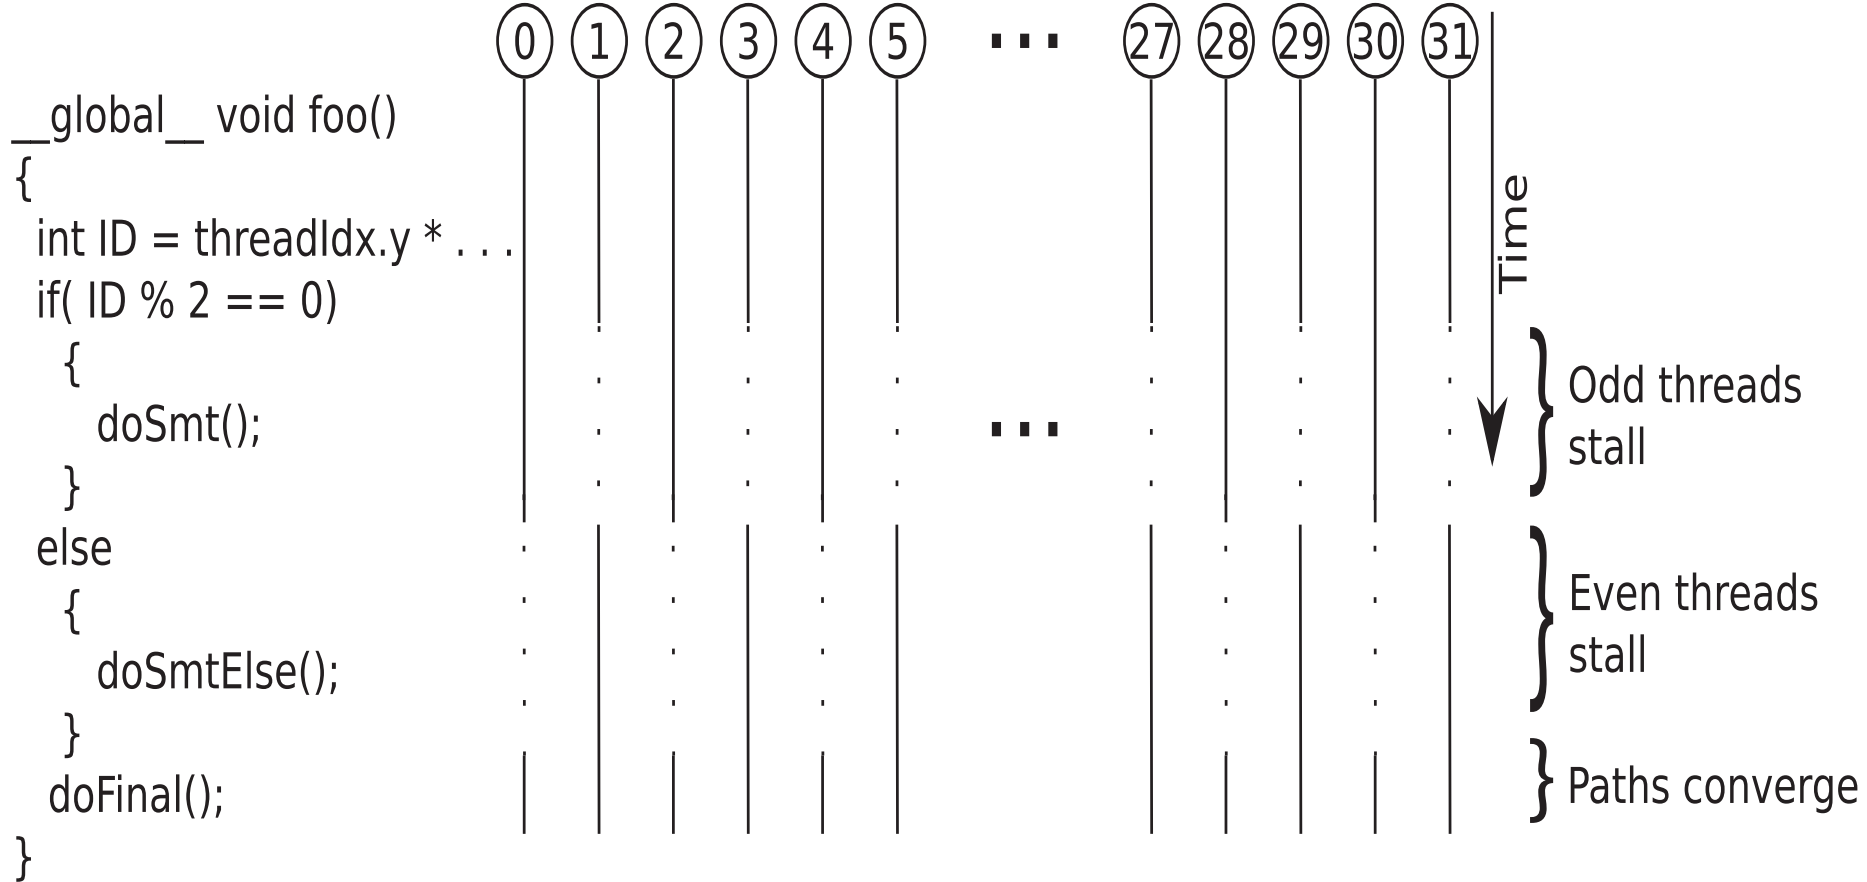

FIGURE 6.4
- Threads in a warp may execute as one, but they operate on different data. So, what happens if the result of a conditional operation leads them to different paths? The answer is that all the divergent paths are evaluated (if threads branch into them) in sequence until the paths merge again. The threads that do not follow the path currently being executed are stalled. So, given the kernel in Listing 6.4, the execution of a warp would be as shown in Figure 6.4.